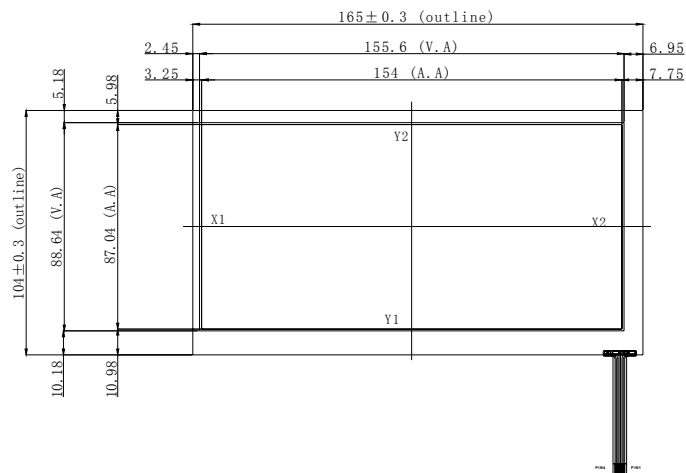

Fig. 1 Measuring area for Linearity
-Measuring area: 1.0mm inside the edge of touch panel active area, pitch 5mm. (Fig. 1)